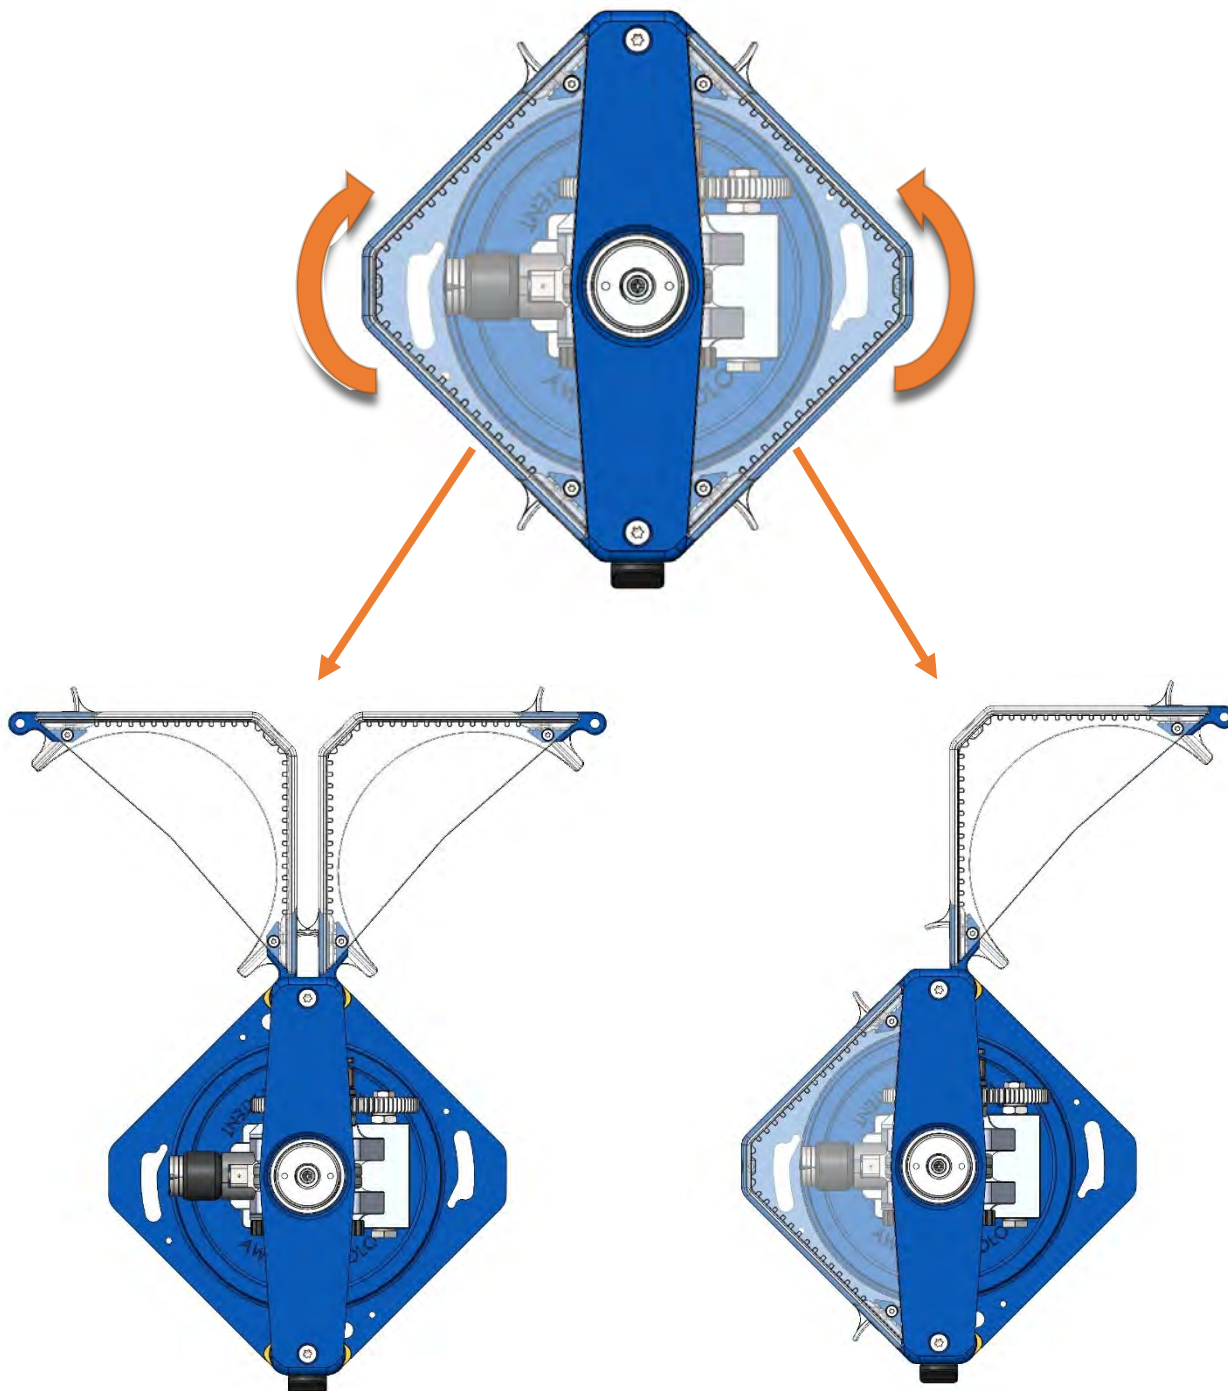

Figure 16
2. While holding down the button, open one or both side doors by rotating them in the direction indicated by the arrow. Figure 16;